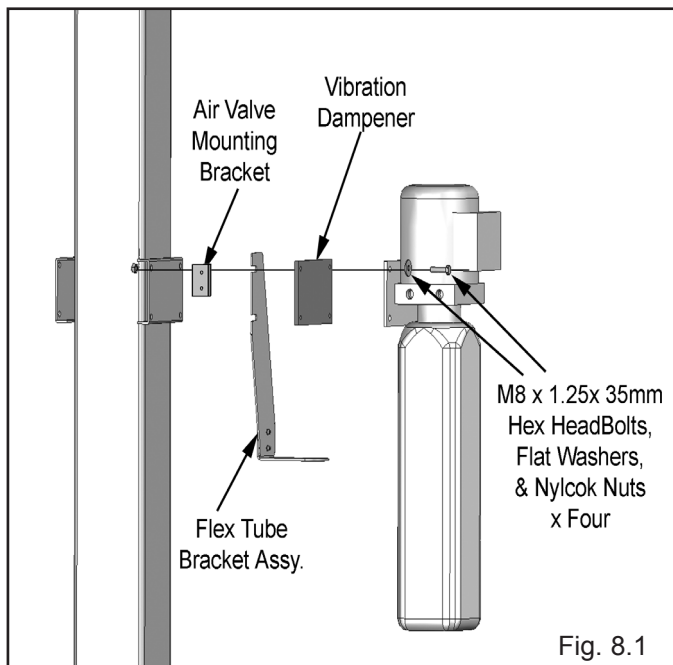

Fig. 8.1
1. Mount the POWER UNIT to the Mounting Bracket using the M10 Hex Bolts and Nylock nuts (torque to 35-45 PSI) then FILL THE RESERVOIR with 20-quarts of 10-WT hydraulic oil or Dexron III automatic transmission fluid. (See Fig. 8.1)